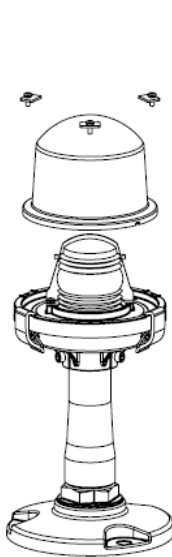

Figure 5-1
- Unscrew the M4×10 screws with a cross screwdriver to remove the pressing bracket and take out the outer cover (see Figure 5-1).